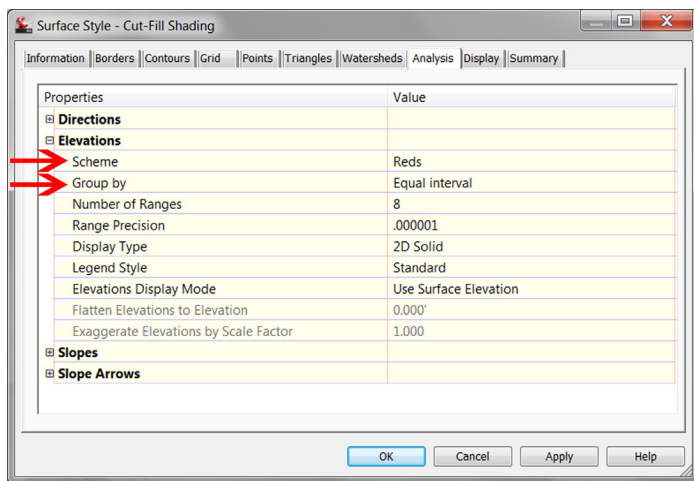

Figure 4: The Surface Style dialog box is used to customize the display of a Civil 3D surface.
**Step 1:** On the Settings tab of the Toolspace, open the Surface group, right-click on the Surface Styles heading, and select New. **Step 2:** In the Surface Style dialog box, select the Information tab and name the style Cut-Fill Shading. **Step 3:** Select the Analysis tab and open the Elevations group to display the settings (see Figure 4).